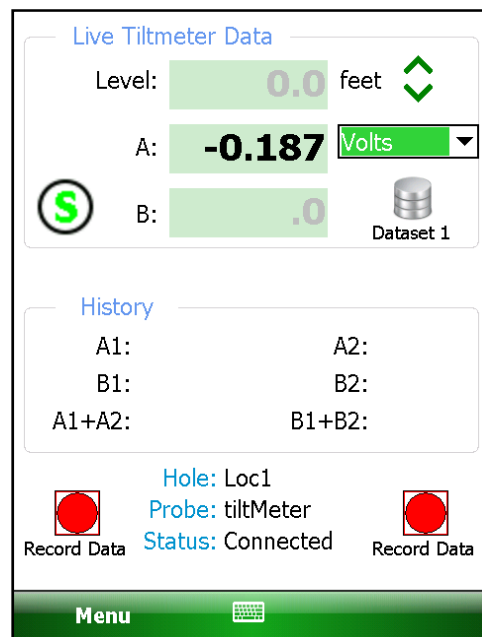

Figure 89 - Live Readings (Tiltmeter)
7. Tap the Live Readings menu item from the Application menu to start the reading process. If a valid Bluetooth connection can be established, a Tiltmeter specific Live Readings screen will be displayed (see Figure 89).
Note the drop-down control in Figure 89, located just to the right of the “A” value display. This allows the “A” value to be displayed in 3 different units, described below: